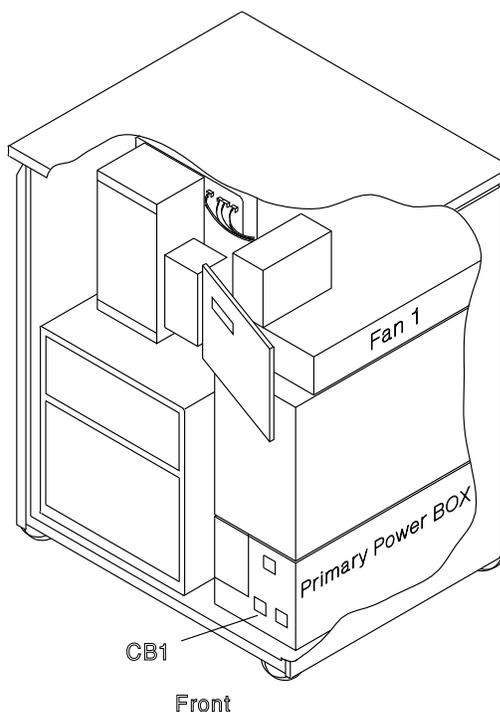

Figure 4-66. Fan 1 and CB1 Locations
4. **Switch CB1 OFF.** Refer to Figure 4-66.
5. Locate Fan 1. Refer to Figure 4-66.